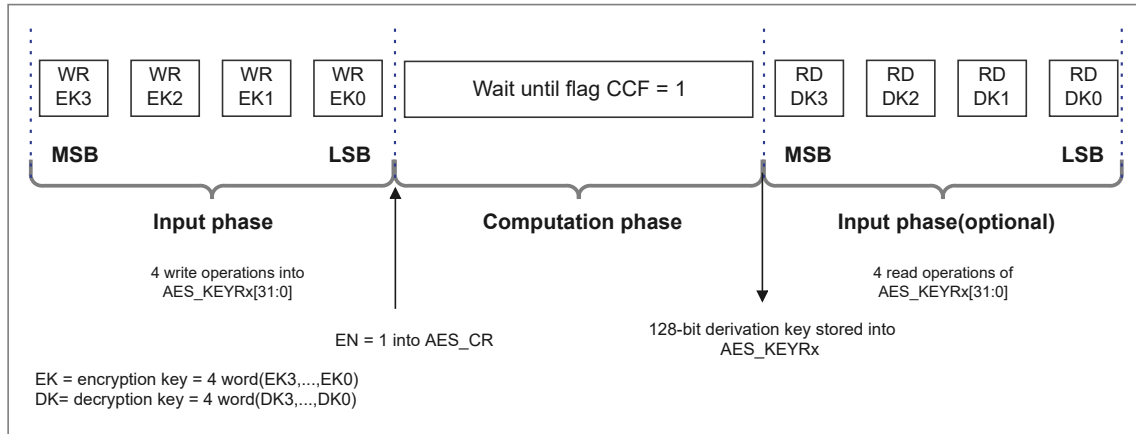

Figure 15-7 Encryption Key Derivation for ECB/CBC Decryption
5. Write the AES_KEYRx registers (128,192 or 256 bits) with an encryption key, as shown in Figure 15-7. Writes to the AES_IVRx registers have no effect.